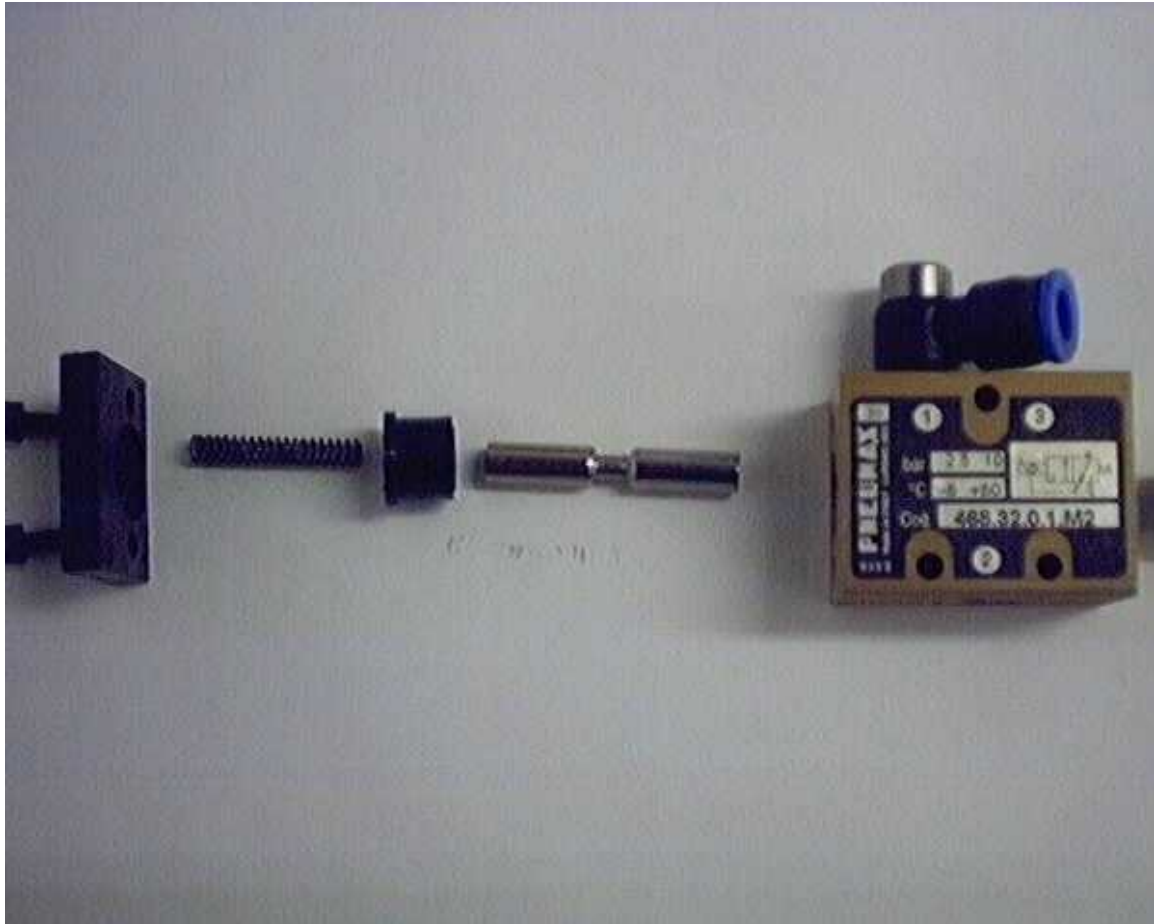

Figure 3. Details the left hand side of the Valve Assembly
6. Carefully disassemble the Valve Assembly as shown in Figure 3.
8. Re-assemble the Valve Assembly as shown in Figure 3.